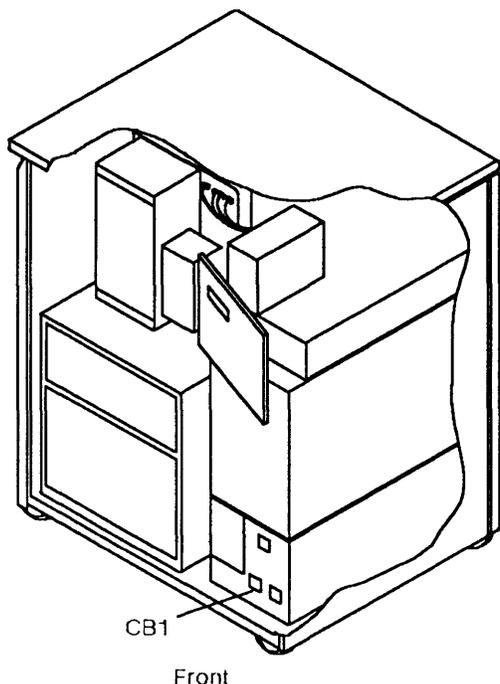

Figure 4-39. CB1 Location.
4. Switch CB1 OFF. Refer to Figure 4-39